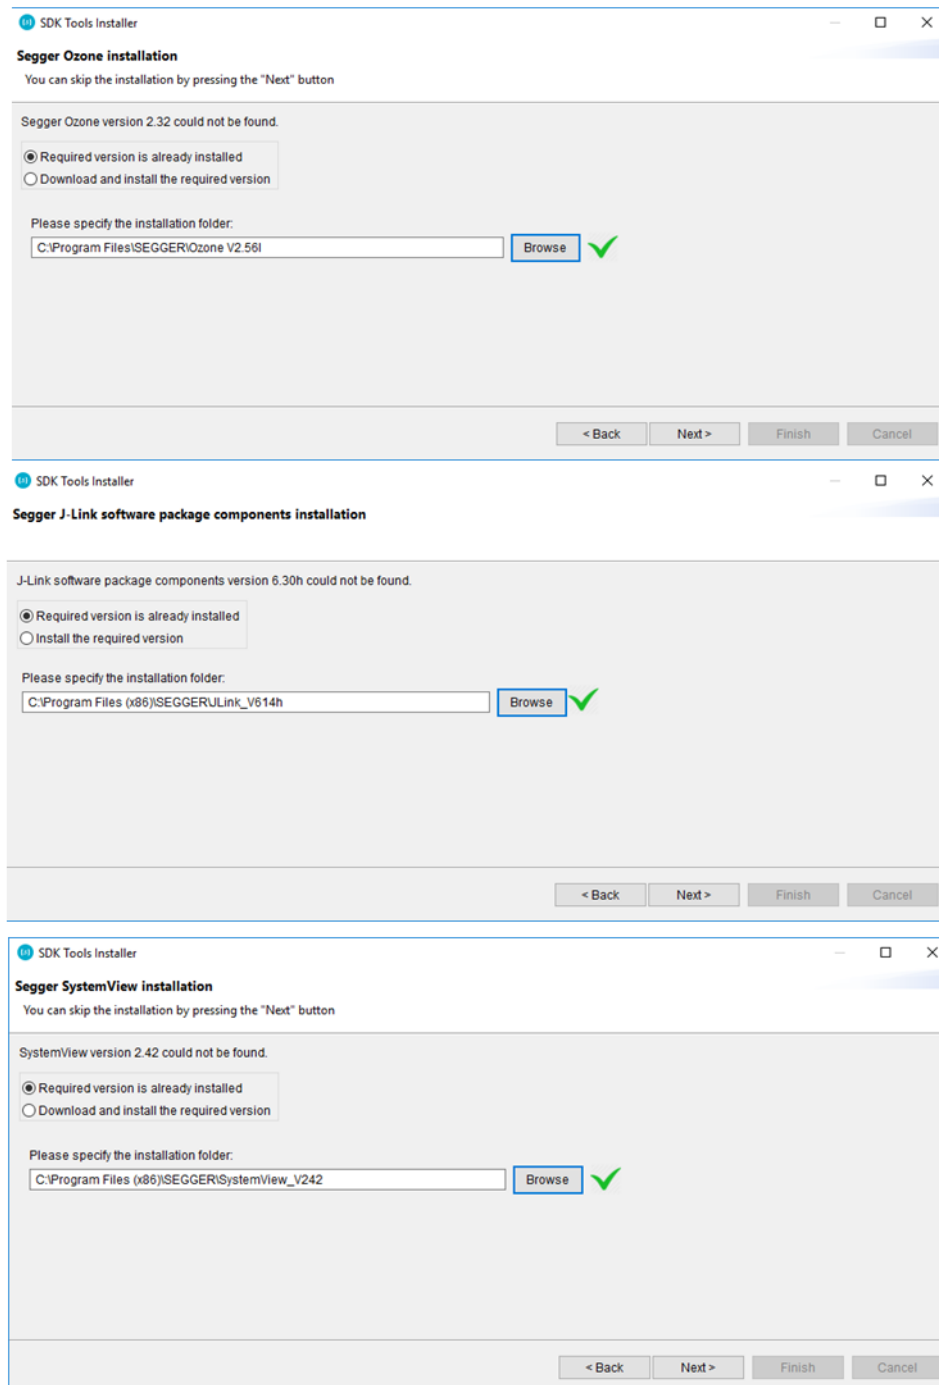

Figure 8: Set SEGGER Ozone &amp; J-Link Installation Folder
3. To proceed, a number of development tools should be installed (Figure 7), or their installation directory should be given (Figure 8) if they are already installed.